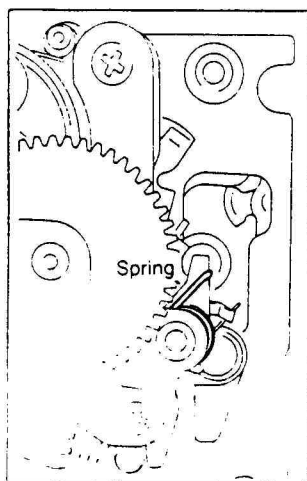

Fig.4 Back side view
4. Take off once the spring of reversal lever claw ⑥, and move the reversal lever claw to make a gap, in which insert the S. lever ass'y ① as shown in Fig. 4. (See Fig. 4.)